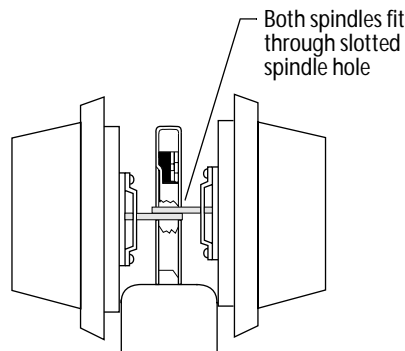

Figure 6 Side view of a double-keyed deadbolt
- Install each cylinder with its ring and rose as shown in Figure 6.